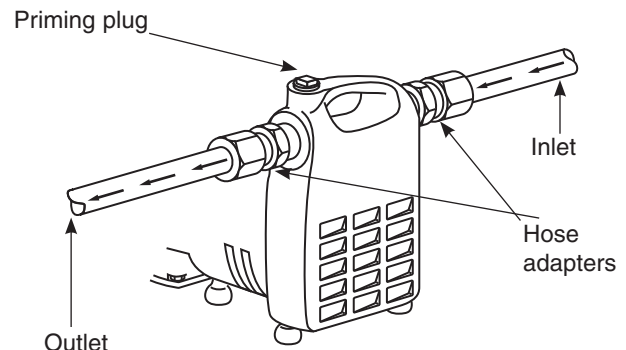

Figure 2
- Figure 2 shows a typical application. Threaded adapters are furnished for attaching garden hose where conditions permit its use. In no case should the pump be more than 15 feet above or away from inlet source. Install a foot valve when suction lift is over 10 feet or when suction line is over 10 feet long.